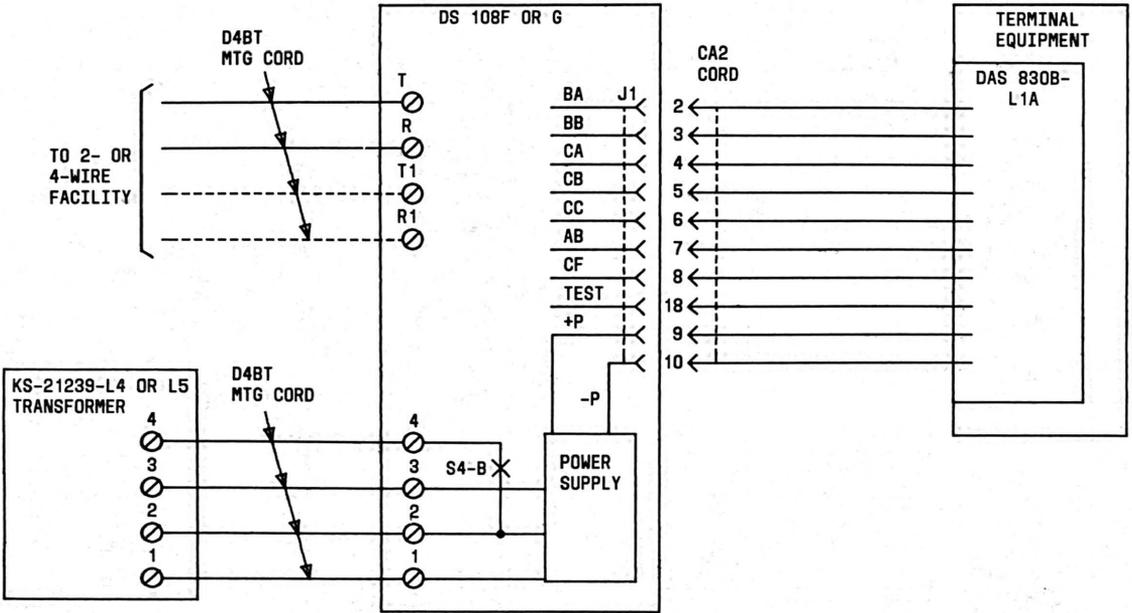

Fig. 16—DS 108F or G with DAS 830B-L1A Connection Diagram
- Fig. 16—DS 108F and G With DAS 830B-L1A Connection Diagram